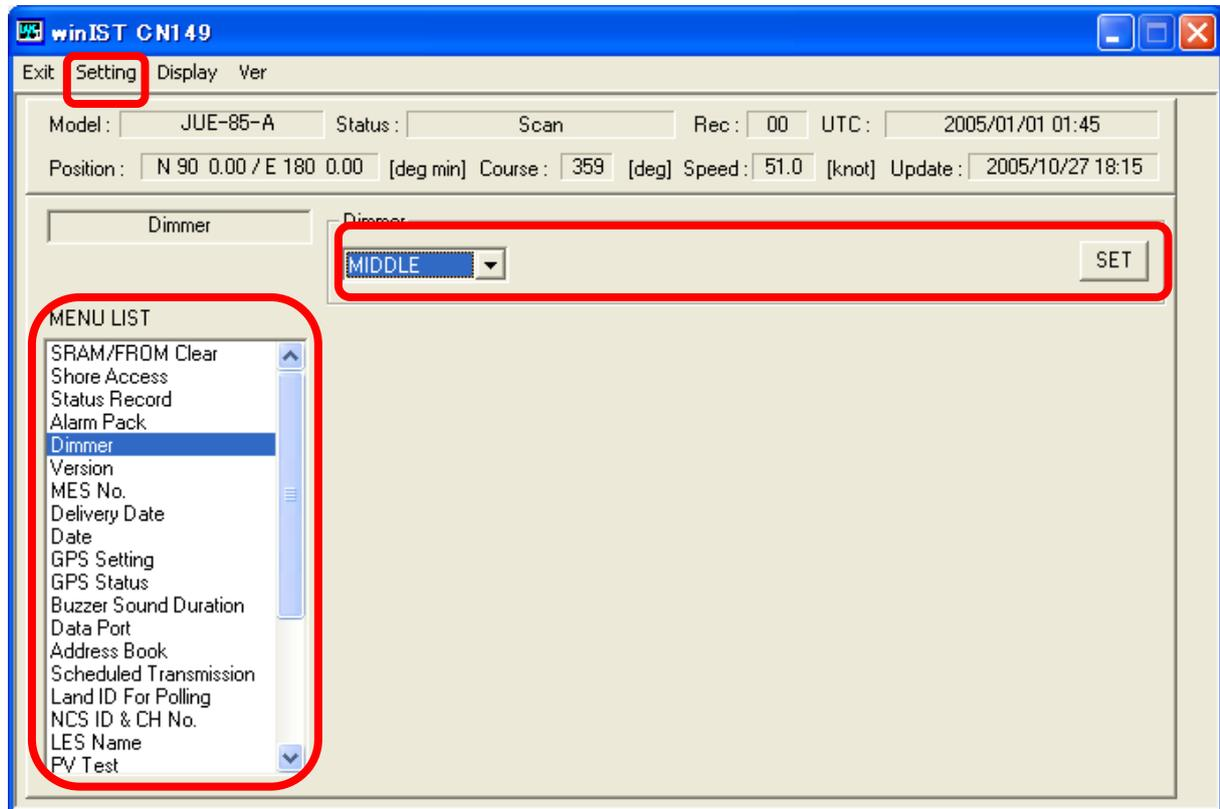

Fig. 4-7a Dimmer setting screen
2. Operation except [Exit], [Display], and/or [Ver] is not possible while winIST is communicating with INMARSAT terminal(the function in the frame of **Fig. 4-7a [Dimmer] setting screen** cannot be operated).